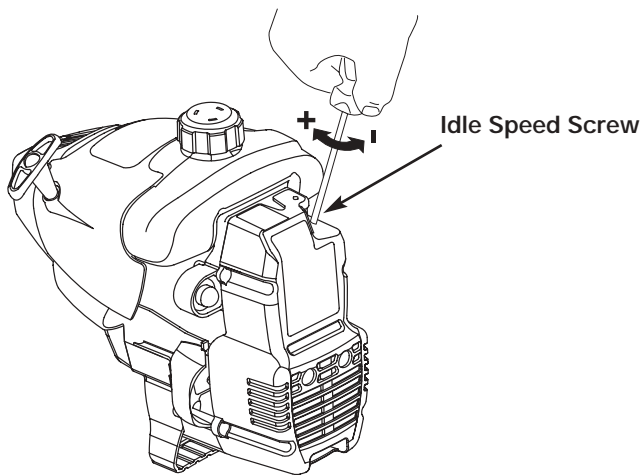

Fig. 54
The idle speed of the engine is adjustable through the air filter/muffler cover (Fig. 54).
2. Release the throttle trigger and let the engine idle. If the engine stops, insert a small phillips or flat blade screwdriver into the hole in the air filter/muffler cover (Fig. 54). Turn the idle speed screw in, **clockwise**, 1/8 of a turn at a time (as needed) until the engine idles smoothly.